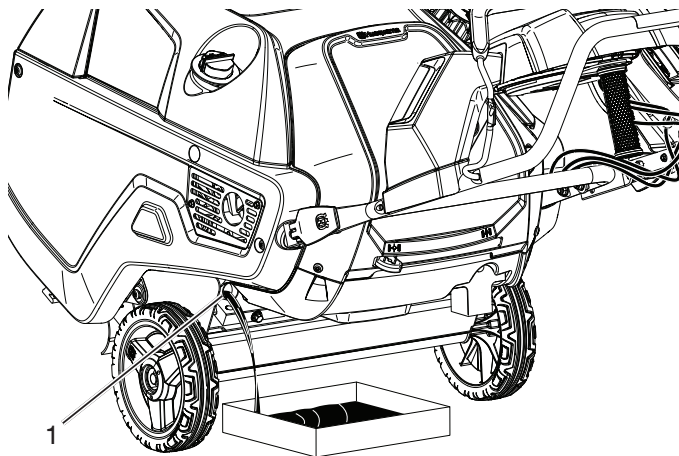

Figure 23
4. Place an oil drain pan under the oil drain plug, remove the oil drain plug, and tip the snowthrower backward and drain the used oil in the oil drain pan (Figure 23).
6. Screw in the oil fill cap/dipstick (1) and hand tighten it securely.